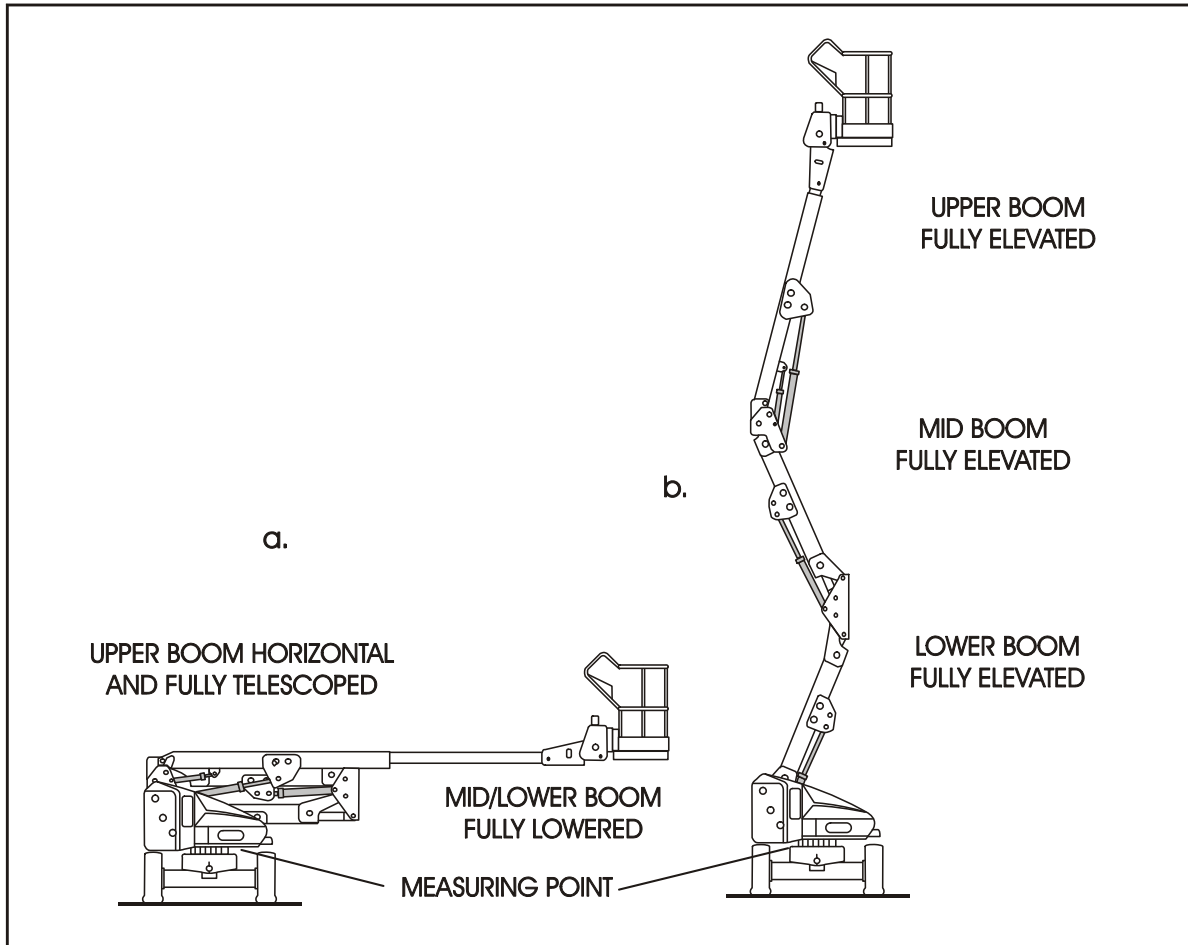
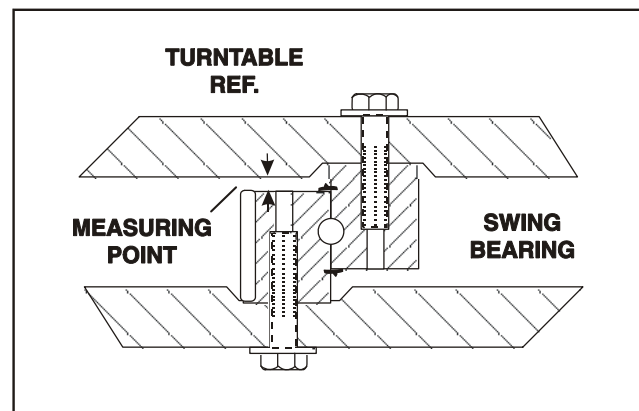

Figure 3-13. Swing Bearing Tolerance Boom Placement
Figure 3-14. Swing Bearing Tolerance Measuring Point
- b. At the positions indicated on Figure 3-13. try and insert the 0.0015" feeler gauge between the bolt head and hardened washer at the arrow indicated position.
fully extended and Mid/Lower Boom stowed, (See Figure 3-13.), using a magnetic base dial indicator, measure and record the distance between the swing bearing and turntable. (See Figure 3-14.)
2. At the same point, with the boom positioned over the side of the machine, the Upper Boom fully elevated and the Mid/Lower Boom fully elevated, (See Figure 3-13.) using a magnetic base dial indicator, measure and record the distance between the swing
bearing and turntable (See Figure 3-14.).